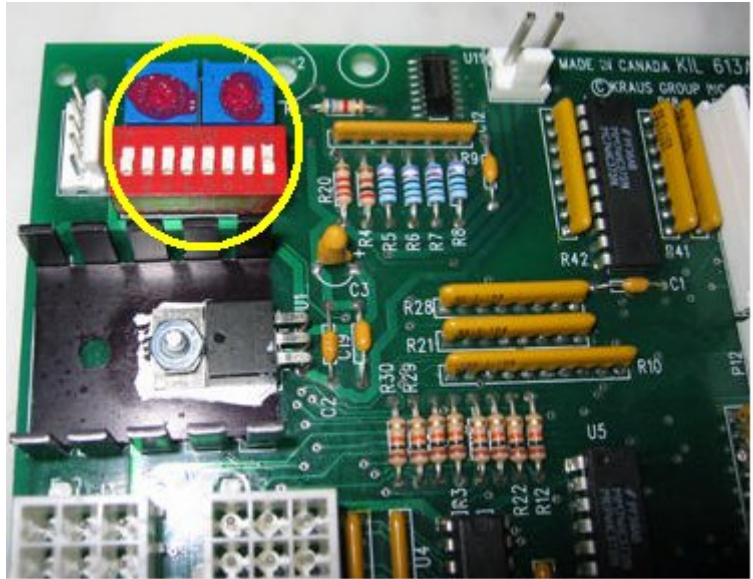

Figure 1 Position of the dipswitches
- Figure 1 Position of the dipswitches**